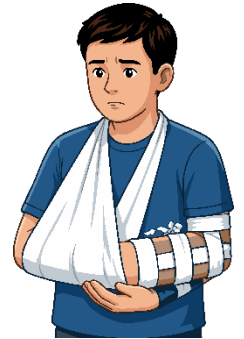

Fig.4.3: First Aid for Fractures
- Apply **RICE** method: (Fig.4.3)